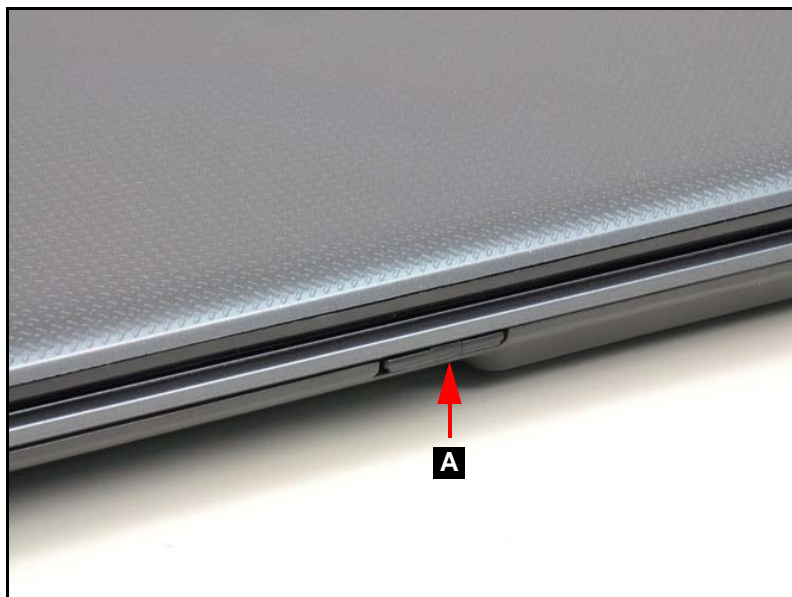

Figure 3-4. Dummy Card
1. Push the dummy card (A) in to release it from the spring latch (Figure 3-4).
2. Remove the dummy card (A) (Figure 3-4).
1. Insert the dummy card (A) (Figure 3-4).